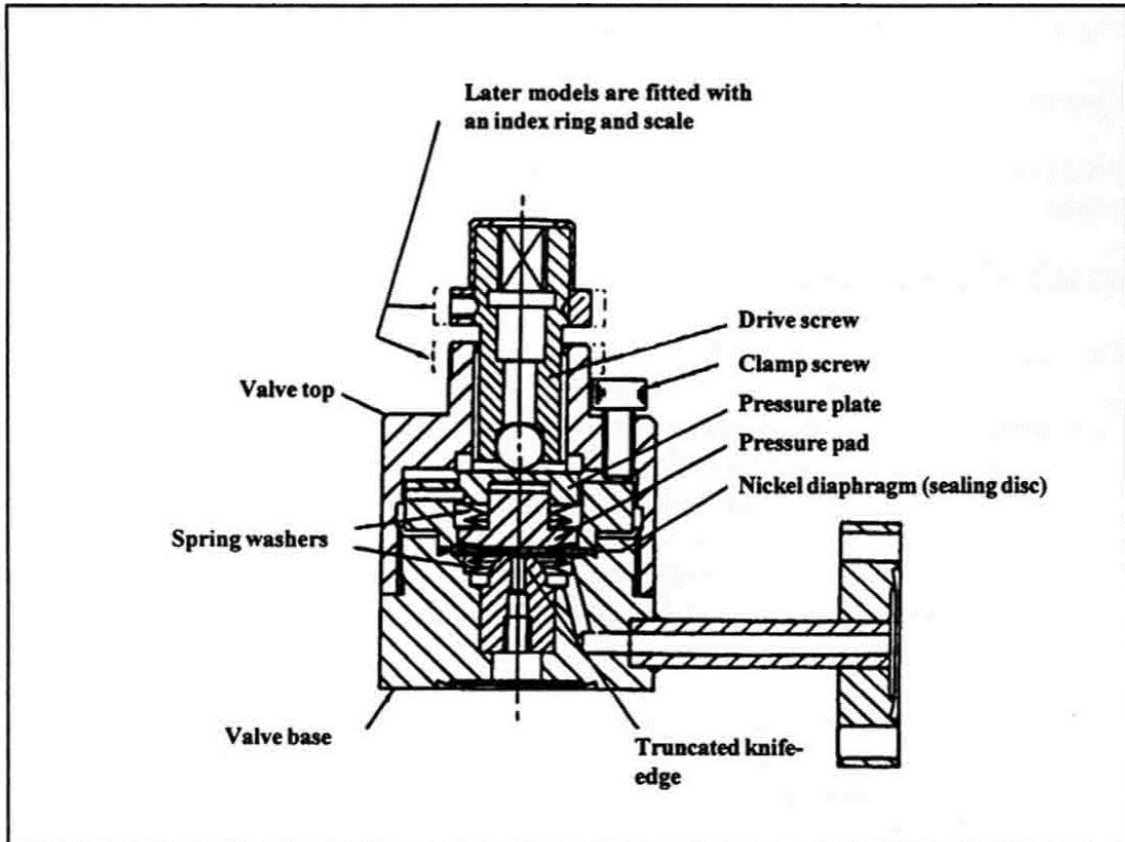

Figure 5. The MD5 coarse leak valve.
The MD5 is illustrated in figure 5. It is specially designed for handling hot and/or corrosive gases, and for this reason it is constructed from corrosion-resistant materials. The body is made from stabilised stainless steel and instead of the normal sealing member materials; the valve has a stellite-faced knife edge and a nickel diaphragm. The latter not only forms the sealing pad but is also an integral part of the vacuum envelope which minimises the dead volume of the valve.
1. Fully open the valve. Refer to figure 5.